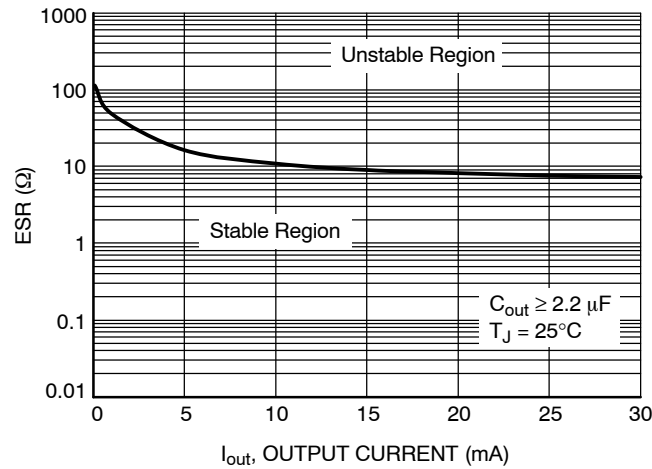
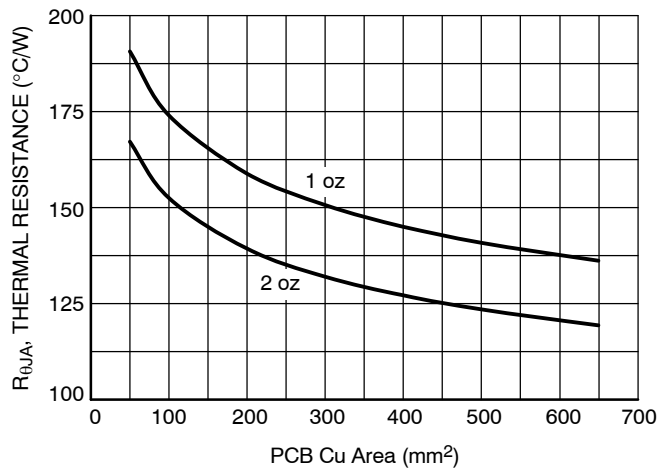

Figure 3. Output Stability with Output Capacitor ESR
Figure 18.  $R_{\theta JA}$  vs. PCB Cu Area
The NCV4296-2C low dropout regulator is self-protected with internal thermal shutdown and internal current limit. Typical characteristics are shown in Figure 3 to Figure 18.
The NCV4296-2C is a stable component and does not require a minimum Equivalent Series Resistance (ESR) for the output capacitor. Stability region of ESR vs. Output Current is shown in Figures 3 and 11. The minimum output decoupling value is 2.2 μF and can be augmented to fulfill stringent load transient requirements. The regulator works with ceramic chip capacitors as well as tantalum devices. Larger values improve noise rejection and load transient response.
Since TJ is not recommended to exceed 150°C, then the NCV4296-2C soldered on 645 mm2, 1 oz copper area, FR4 can dissipate up to 0.92 W when the ambient temperature (TA) is 25°C. See Figure 18 for RthJA versus PCB area. The power dissipated by the NCV4296-2C can be calculated from the following equations: